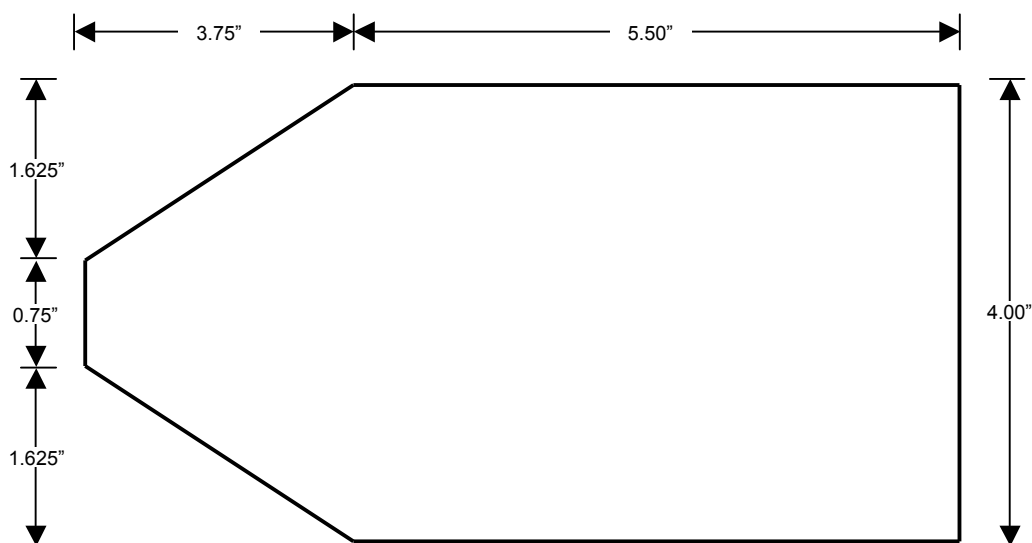

Figure 2: Dimensions for cutting scintillator material.
1. **Mark the scintillator sheet with a film marker (or ink pen) according to the dimensions in Figure 2.** The manufacturer's paper cover may be left on at this time.
1. **Mark 2 pieces of black cardstock according to the dimensions in Figure 2.** The dimensions are the same as those for the scintillator, but the cardboard should be a pencil line smaller.